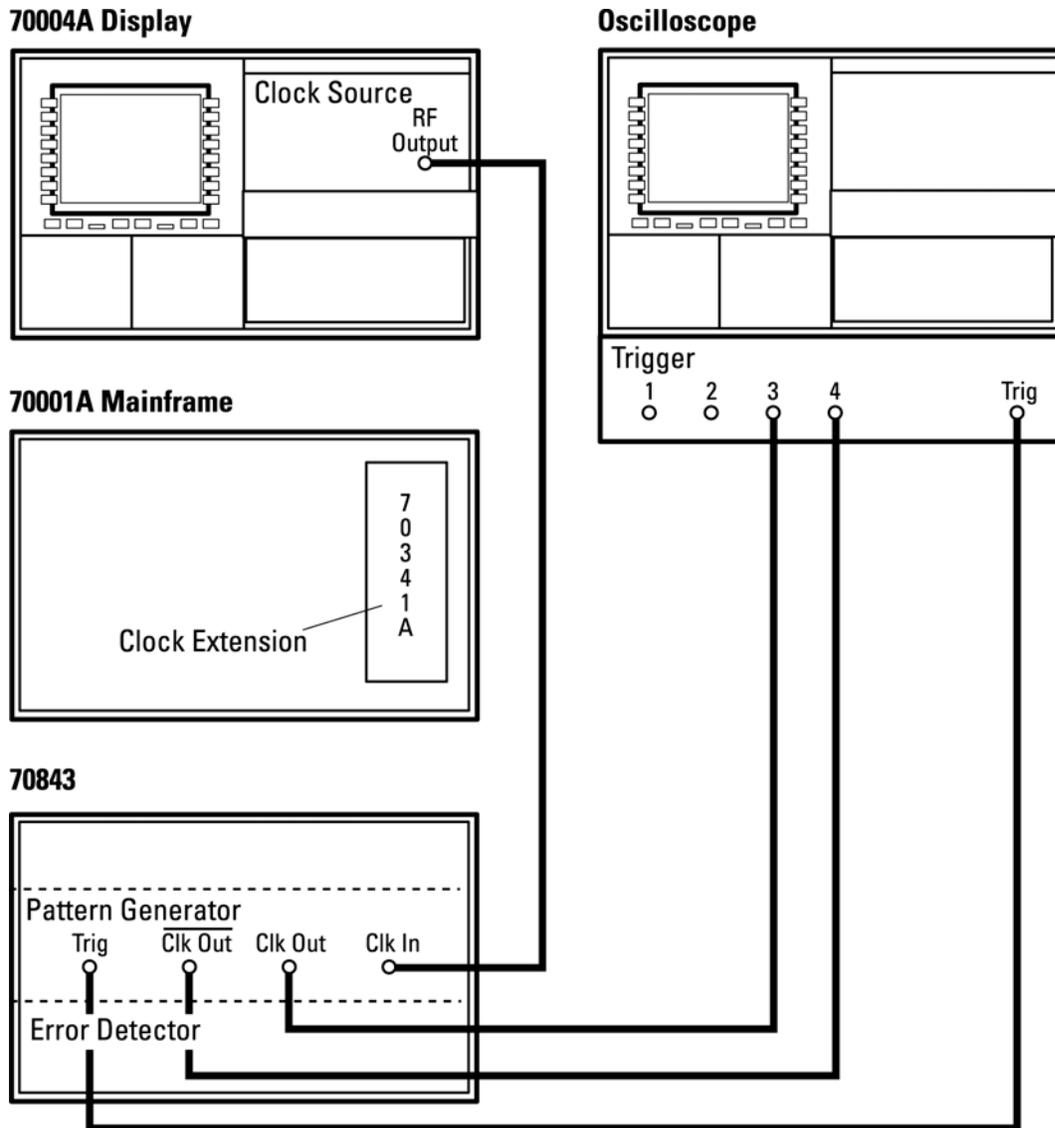

Figure 11-5
1. Connect the HP 70843 main CLOCK OUT ports to the oscilloscope as shown in Figure 11-5. Press **INST PRESET**